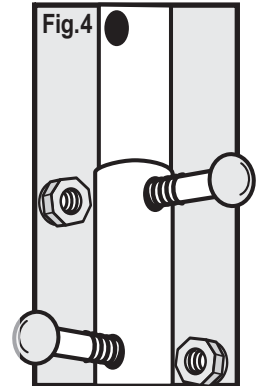

Fig. 4
4. Lift small diameter post to highest possible position. Align holes in posts. Place two bolts through holes and secure with nuts. (Fig. 4)